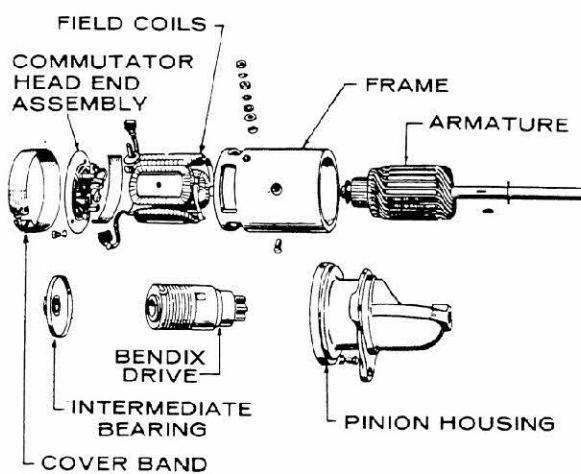

FIGURE 33. GEAR DRIVE STARTER
**6. Gear Drive Starter Only:** The entire assembly is mounted on the armature shaft. When disassembling the starter, pay particular attention to the various parts and their positioning in the starter assembly (Figure 33). If the gears of the pinion are damaged, replace the entire pinion. Inspect the screw shaft for rust and burrs.